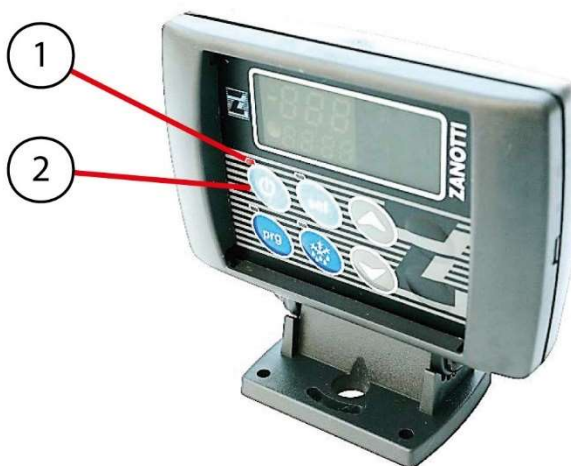

Figure 10 - On button
- Check that the LED (1, Figure 10) of the in-cab controller is on.
- To turn on the unit, press and hold the power button  (2) for 3 seconds.